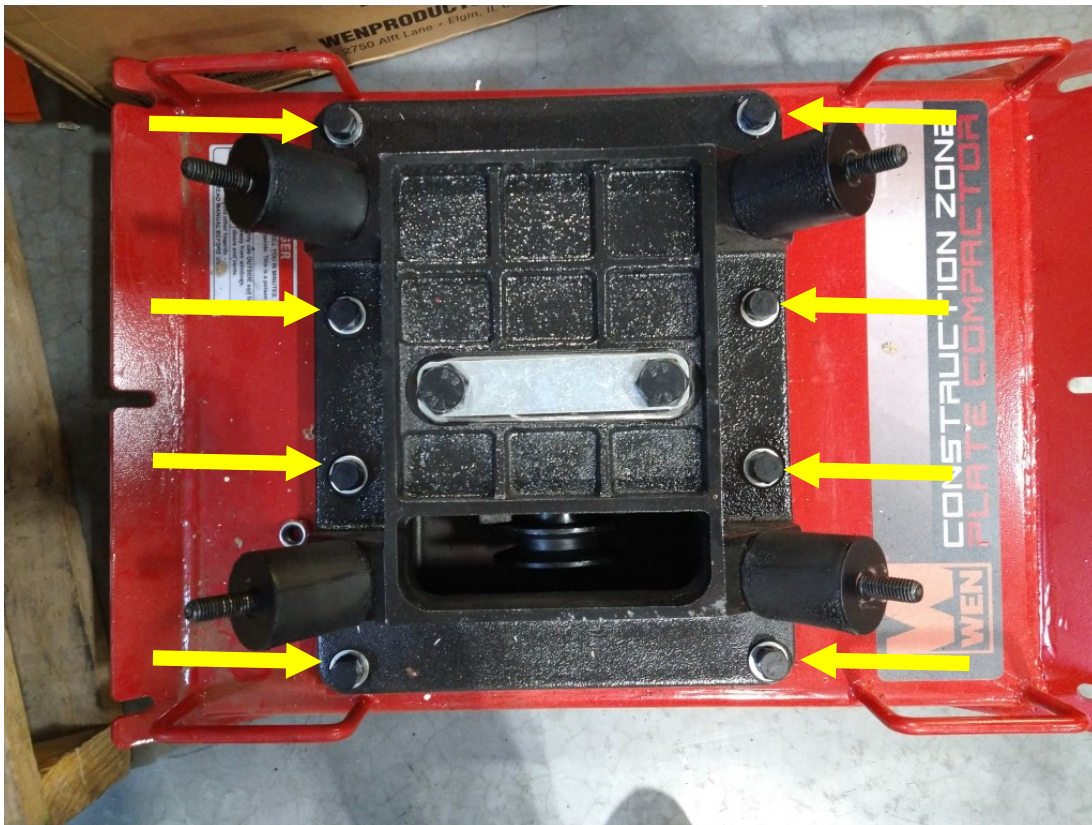

Fig. 7: Remove the 8 mounting bolts, then gently remove the exciter seat and vibrating assembly from the bottom plate.
8. Remove the 8 mounting bolts from the exciter seat (Fig. 7), then remove the exciter seat and vibrating assembly from the bottom plate. You may need an impact wrench or breaker bar to remove the bolts.